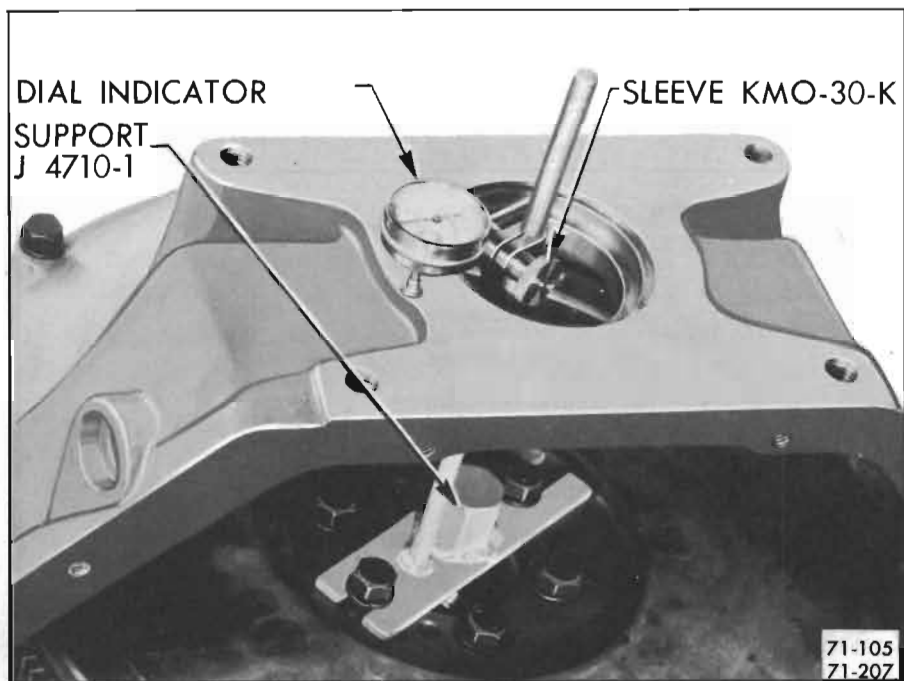

Figure 71-105—Checking Alignment of Rear Face
7. Mount dial indicator to bear against rear face of flywheel housing at a radius of 2 1/2", as shown in Figure 71-105.